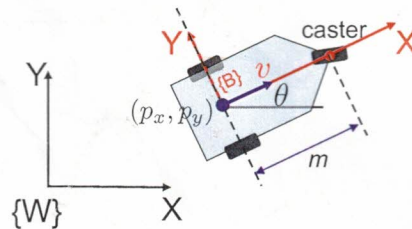

Figure 2: Scenario for Problem 2
Problem 2 (3.5 points). Consider a unicycle robot with a caster as shown in Figure 2 whose kinematic model is given by (1).